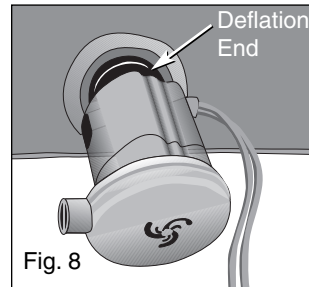

Fig. 8
3. Place DEFLATION end of pump inside the Double-Lock™ Release Valve (see Figure 8).
5. Once bed is completely deflated, push in with the pump. This will close the valve around the internal post. Then close the cap (see Figure 8 & 9).